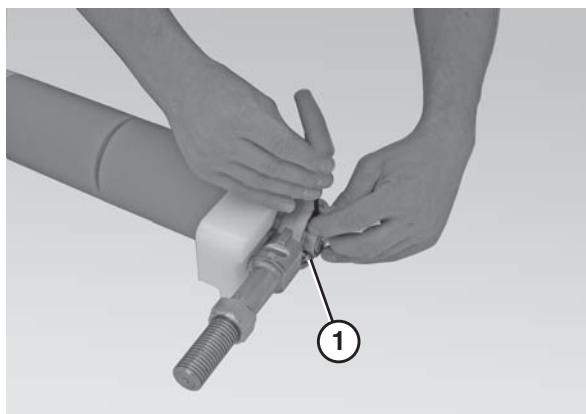

Figure 66
- Use a 4 mm hex wrench to loosen the bearing shaft assembly fasteners (**Figure 66, item 1**).